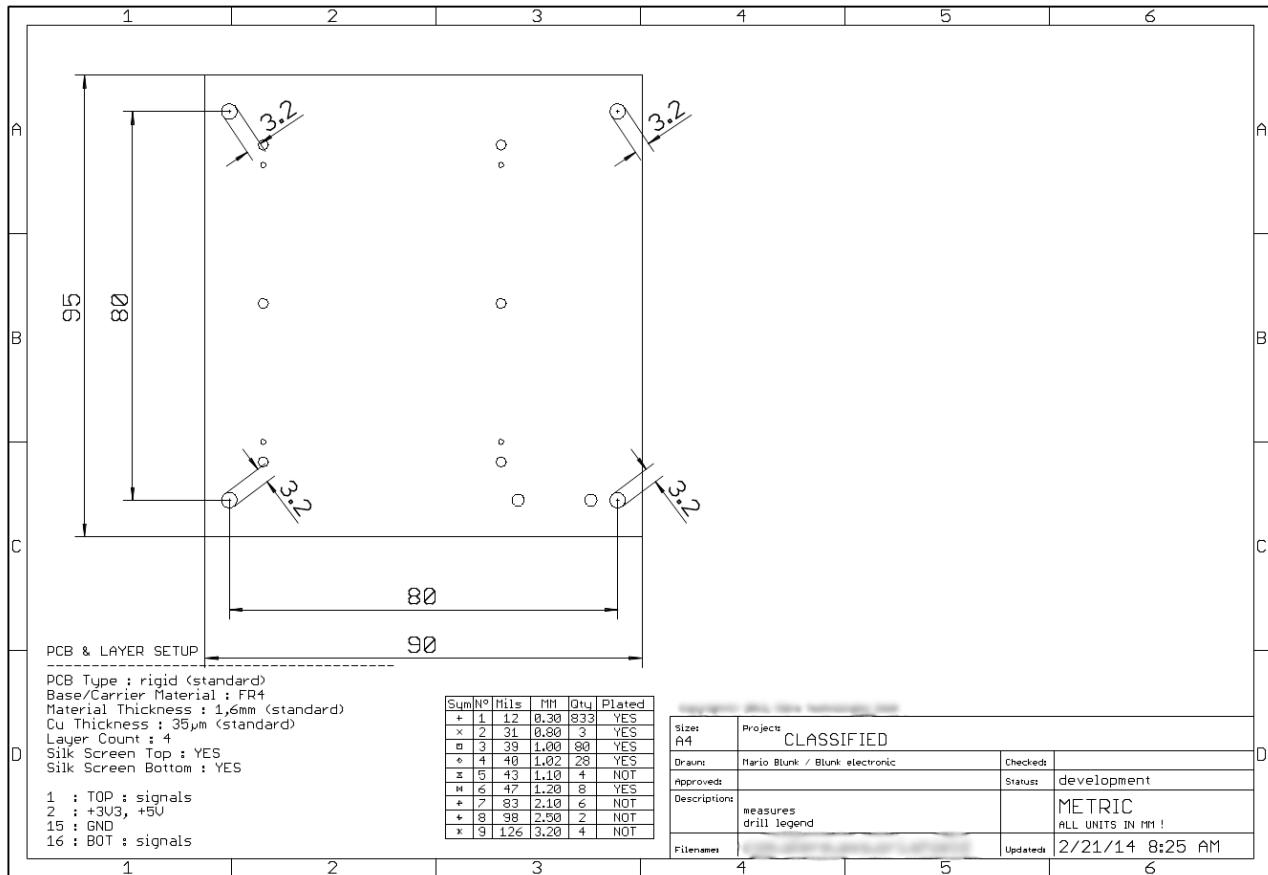

Figure 39: PCB specification
1. Make sure the PCB specification is written in both: a reserved gerber file dedicated for documentation only and/or in a dedicated pdf file. See example in Figure 39.